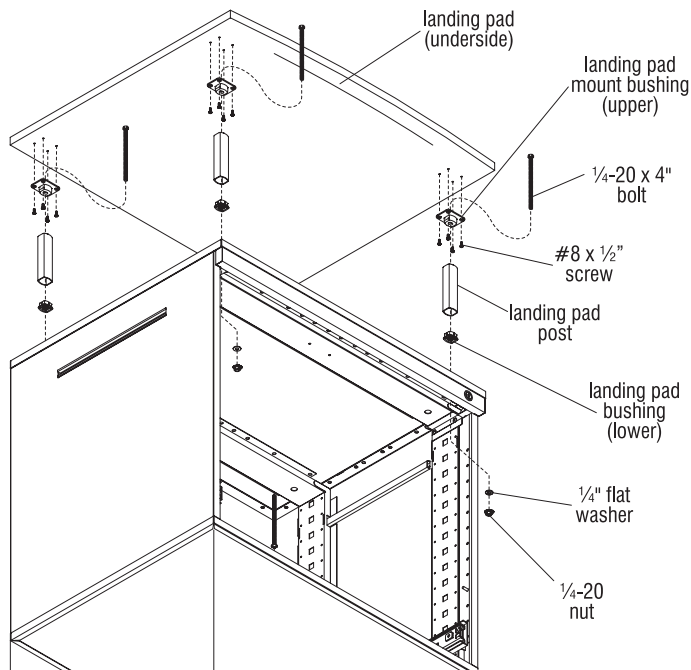

Figure 4
2. Locate the hardware pack for the Landing Pad and identify the parts by referencing Figure 4. Begin assembly by inserting four 1/4-20 x 4" bolts into four (upper) landing pad mount bushings. Secure the upper bushings to the underside of the landing pad as illustrated using four #8 x 1/2" screws (Figure 4).
3. Place a lower landing pad post bushing into the bottom of each landing pad post and press the four landing pad posts/lower bushings onto the installed upper landing pad mount bushing and 4" bolt (Figure 4).
4. Carefully position the landing pad with installed bushings, posts & bolts such that the four bolts insert through the four mounting holes in the top of the cabinet (Figure 4).
5. From inside the cabinet, locate the 1/4-20 x 4" bolts inserted through the top and place a 1/4" flat washer and 1/4-20 k-lock nut onto each bolt. Tighten nuts to secure landing pad to cabinet top (Figure 4).